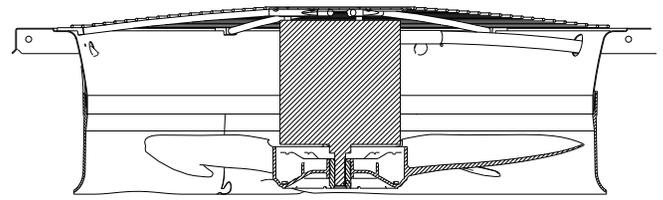

Fig. 26 — Condenser-Fan Adjustment
2. Remove condenser-fan assembly (grille, motor, and fan). See Fig. 26.